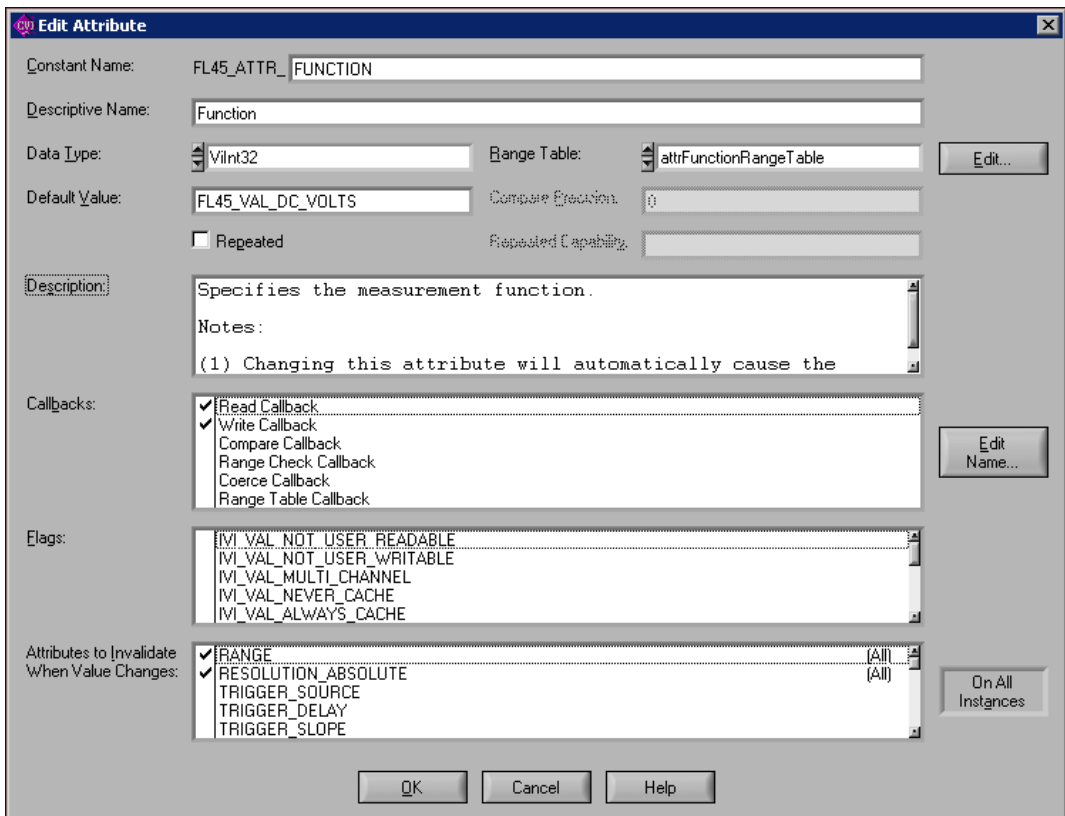

Figure 5-12. Edit Attribute Dialog Box
1. In the Edit Driver Attributes dialog box, double-click the `FUNCTION` attribute. The Edit Attribute dialog box appears, as shown in Figure 5-12.